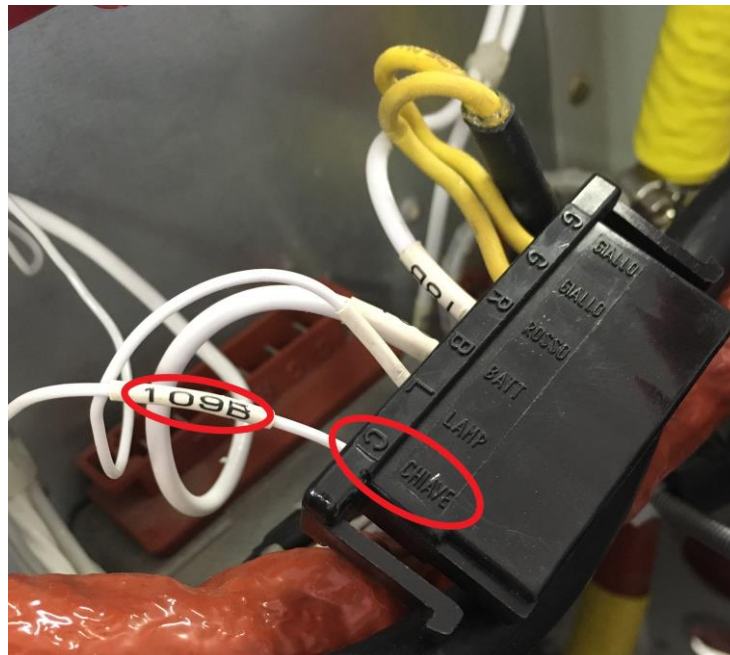

Fig. 20: Marked wire
- 18) Using a screwdriver, loosen the locking tab from the terminal block and slide out the wire marked 109B (See Fig. 20)